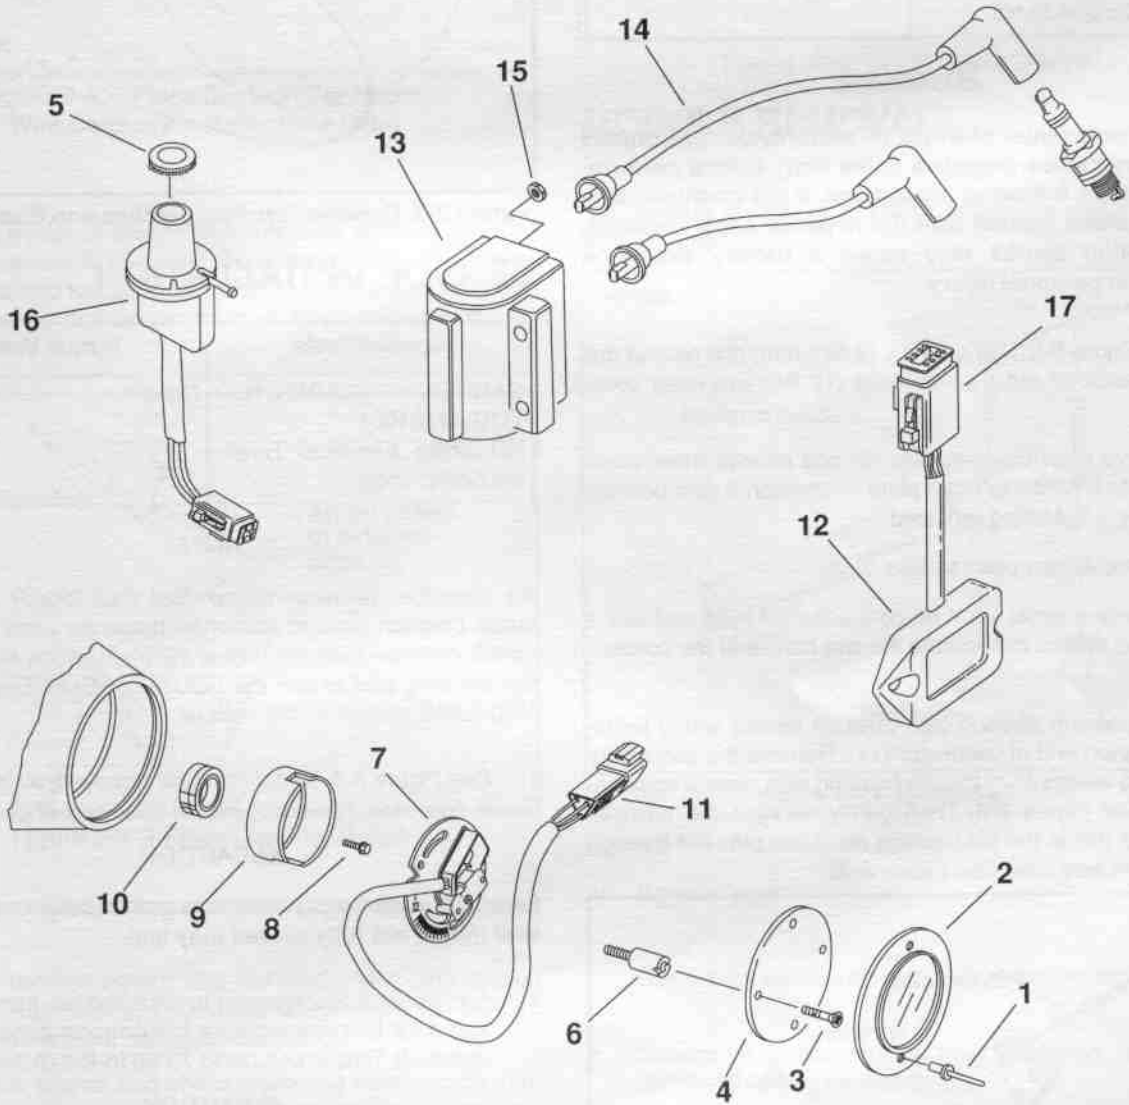
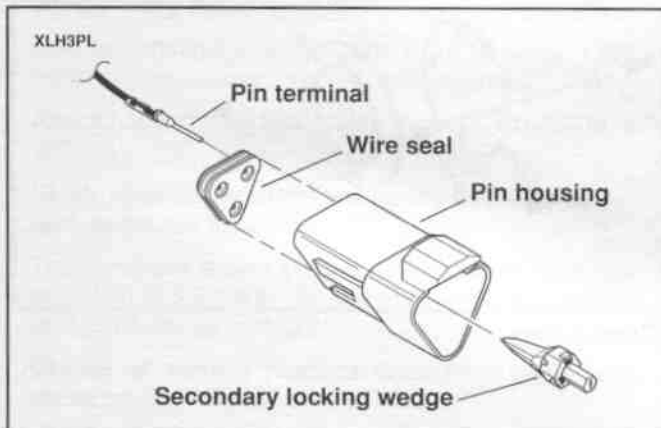
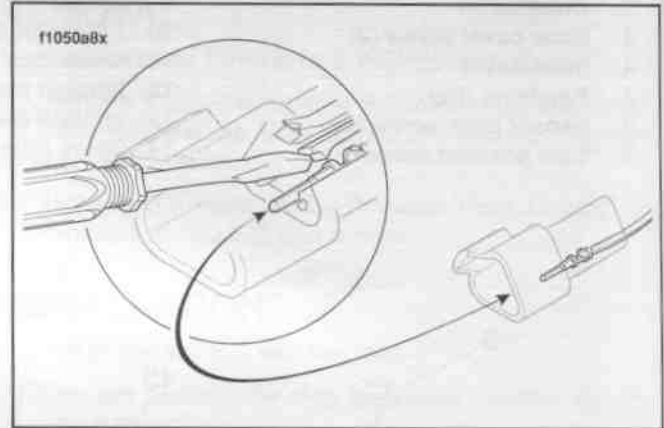

Figure 8-5. Ignition Components
Figure 8-6. 3-Place Deutsch Connector (Pin Side)
Figure 8-7. Depress Terminal Latches and Back Out Pins
1. See Figure 8-5. Use a 3/8 in. (9.525 mm) drill bit and drill the heads off outer cover rivets (1). Remove outer cover (2).
2. Remove inner cover screws (3) and remove inner cover (4). Use a scribe to mark plate orientation if cam position sensor is not being replaced.
3. Remove sensor plate screws (6).
5. Note position of each cam position sensor wiring terminal in plug end of connector (11). Remove the secondary locking wedge from the pin housing with needle nose pliers. See Figure 8-6. Then gently depress the terminal latches inside the pin housing and back pins out through holes in wire seal. See Figure 8-7.
1. See Figure 8-5. If seal (10) was removed, install new seal in gearcase, lip side of seal to gear side of gearcase.
5. See Figure 8-5. Connect cam position sensor connector (11).
8. Install inner cover (4) with screws (3).
9. Rivet outer cover (2) to inner cover (4) with rivets (1).